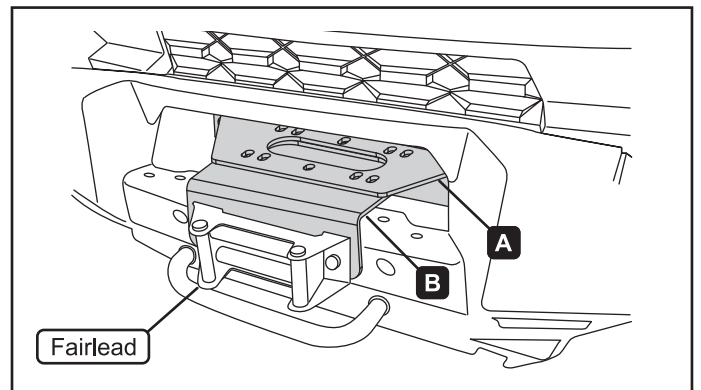

Figure 5. Alternative configuration for this bumper style
NOTE: For machines with bumper style shown in figure 5, skip step 3. Wait to install fairlead mount (B) and winch until after the bumper is reinstalled.
NOTE: For machines with the bumper style shown in figure 5 on the previous page, install your winch and the fairlead mount (B) over the bumper as shown in figure 5.